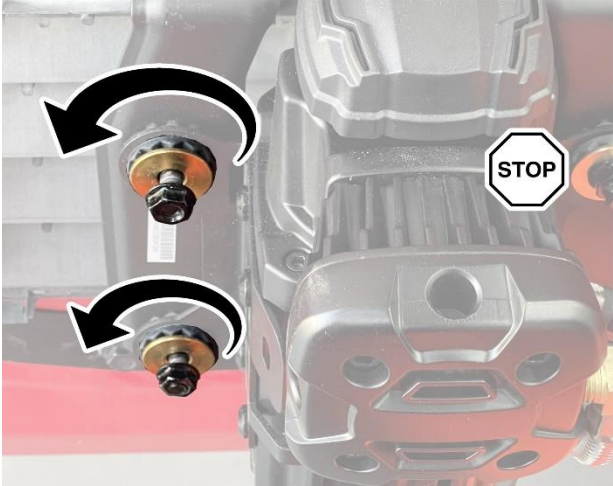

Figure 18 – Air Compressor Mounting Nuts
29. Partially loosen the 2 **left side** Air Compressor mounting nuts (Figure 18).